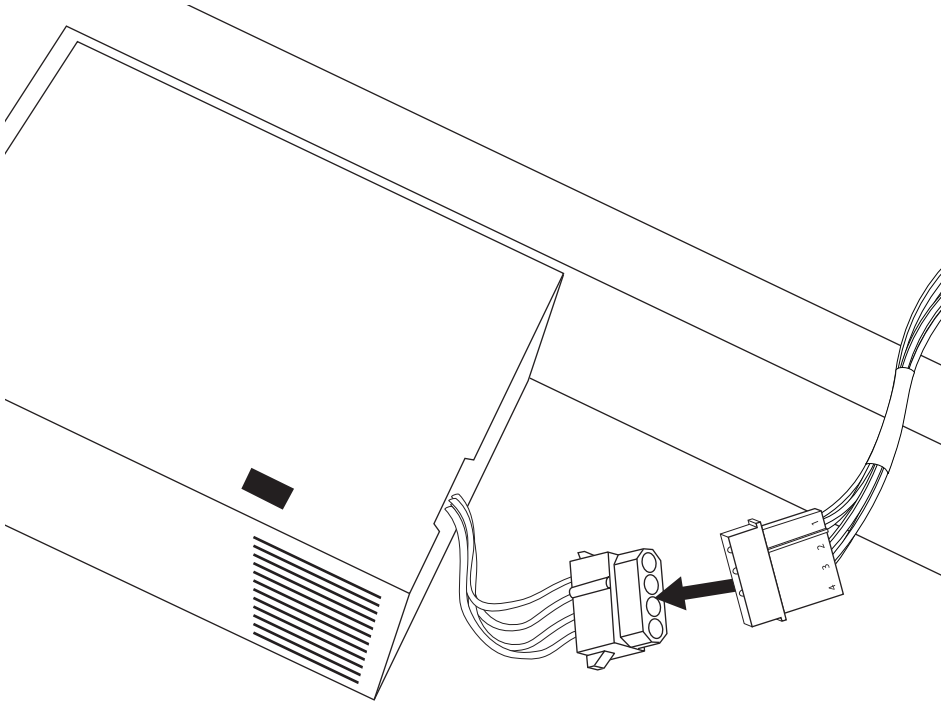

Figure 7. Connecting the HDX card power cable to a hard drive power source (PC)
- 4 Connect the included custom power cable to any available hard drive power connector coming from the main power supply. (See Figure 7 on page 18.)